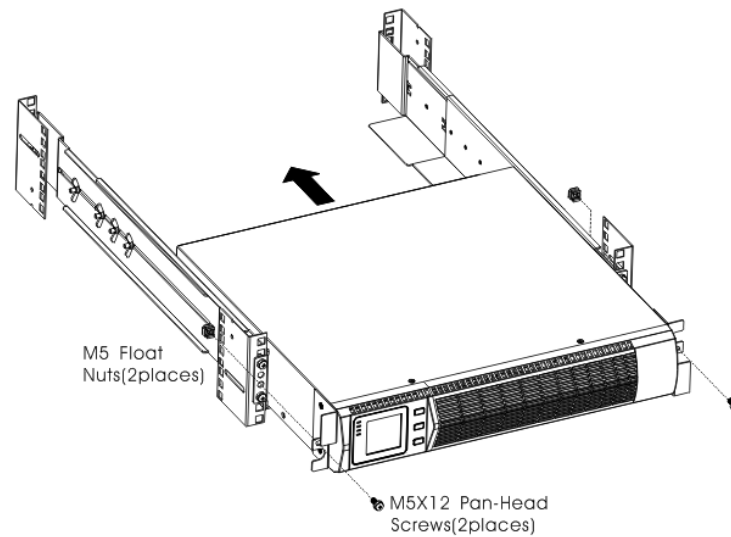

Figure6 Securing the Front of the Cabinet
12. Secure the front of the UPS to the rack using one M5×12 pan-head screws and one M5 cage nuts on each side(see Figure 6).Install the bottom screw on each side through the bottom hole of mounting bracket and the bottom hole of the rail.